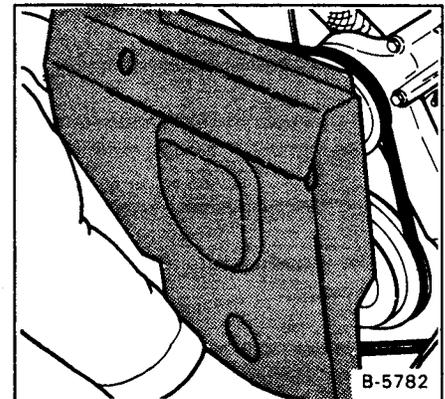

Fig. 1-22 Removing Engine Shield
- (1) Remove the belt shield (Fig. 1-22).